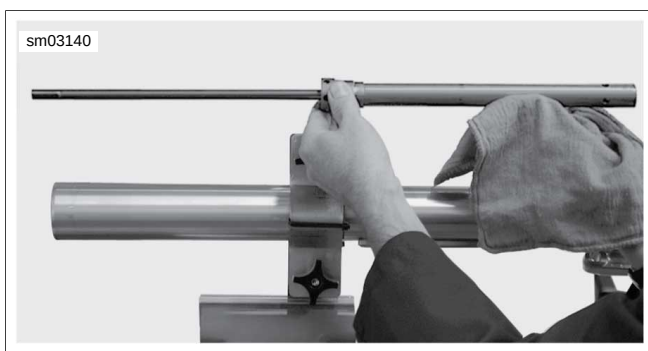

Figure 2-173. Cartridge Assembly
10. See Figure 2-173. Place fork in vise using FORK TUBE HOLDER (Part No. HD-41177). Remove cartridge assembly from fork slider.